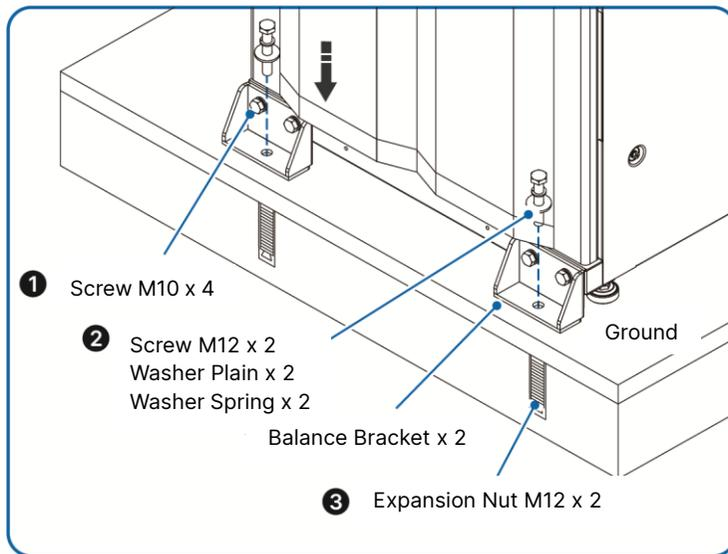
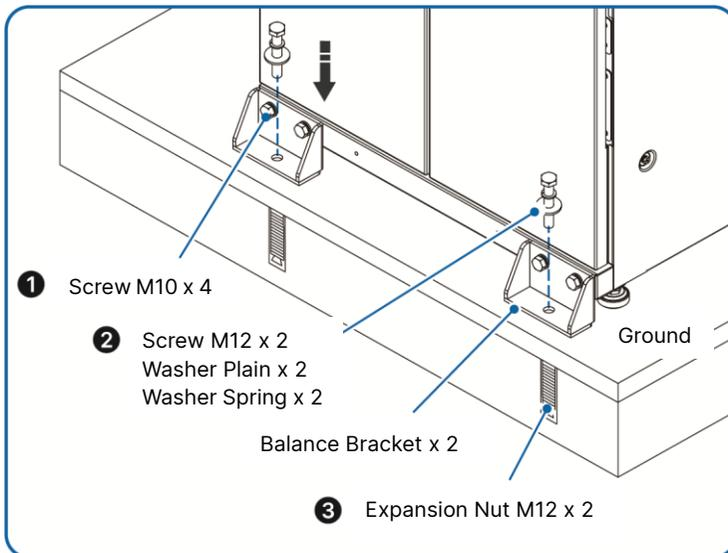

Figure 5-3: Balance Bracket Installation_ Front of the UPS
Figure 5-4: Balance Bracket Installation_ Rear of the UPS
Use eight M10 screws (four for the front, four for the rear) ❶ and four expansion M12 screws, washer plains and washer springs (two for the front, two for the rear) ❷ to fix the UPS on the ground with four balance brackets. Please refer to *Figure 5-3~ Figure 5-4*. The eight M10 screws and the four balance brackets are those been taken apart from the UPS earlier while moving the UPS from the pallet to the ground (see *5.3 UPS Transportation*). As for the four expansion nuts, they should be provided by qualified service personnel.